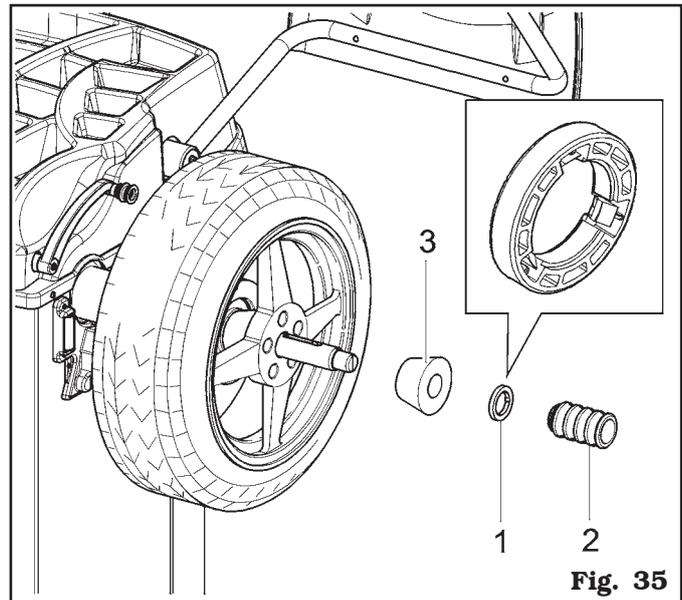

Fig. 35
7. Fit the cone (**Fig. 35 ref. 3**) with the narrowest part turned towards the wheel.
8. Fit the grip-ring (**Fig. 35 ref. 1**) in the bush (**Fig. 35 ref. 2**) and bring everything against the wheel.
THE GRIP-RING (FIG. 35 REF. 1) MUST BE MOUNTED WITH THE DISCHARGE SIDE TOWARDS THE SLEEVE (FIG. 35 REF. 2).